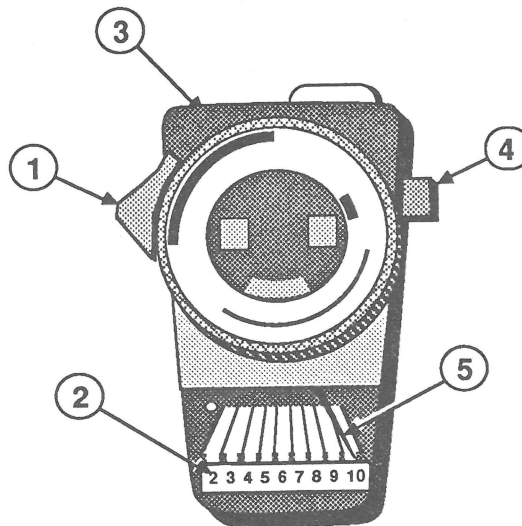

FIGURE 7
- b) Move the side switch (Figure 7, #1) to its lower position so that the lower scale (Figure 7, #2) reads 2 through 10.
- c) Uncover the lens of the meter (Figure 7, #3). Place the lens against the middle of the screen and press the "read" button (Figure 7, #4). Take the light meter reading by checking the position of the needle (Figure 7, #5) on the lower scale.